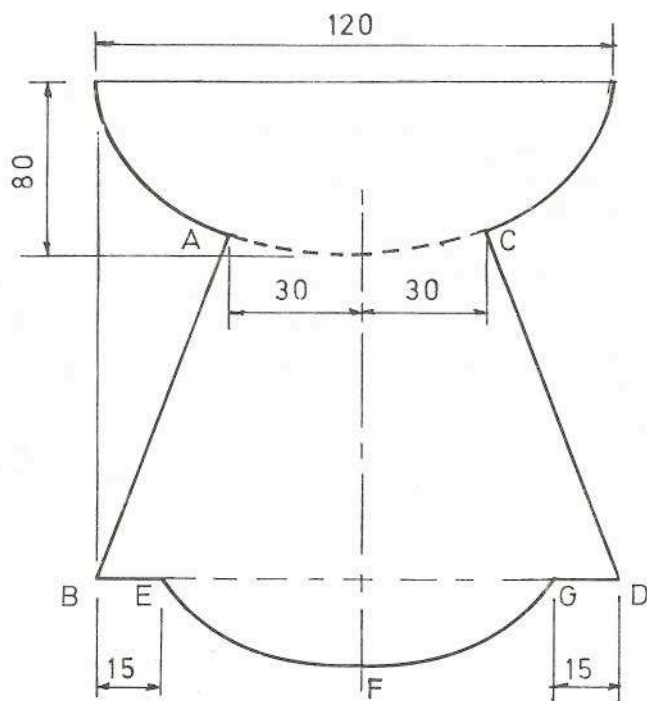

Fig. 9
9. Fig. 9 shows a design containing a semi-ellipse with major axis of 120 mm. The lines AB and CD are normals to the curve. The curve EFG is part of an ellipse whose major axis is 100 mm and minor axis is 60 mm. Draw the given design.